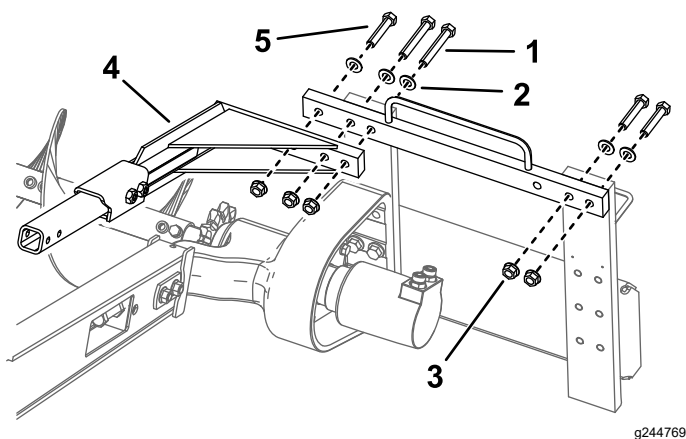

Figure 9
1. Bolt (6)
8. Remove the 2 bolts (5/8 x 3 inches), 2 washers, and 2 nuts securing the right side of the upper frame and move them to the corresponding holes on the left (Figure 9).
9. Install the safety bar over the trencher chain using the 3 bolts, washers, and flange nuts removed previously (Figure 9).